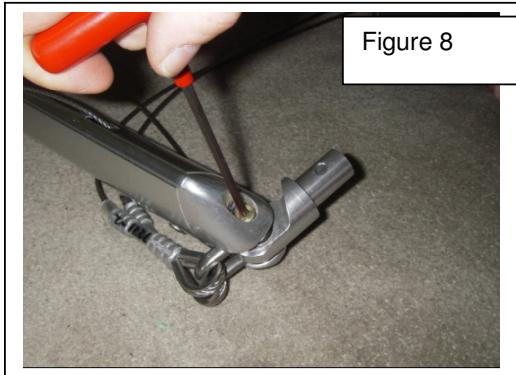

Figure 8
13. Remove the shoulder bolt that holds the side wires, shackle and knuckle. Using a 4mm Allen key. See figure 8.